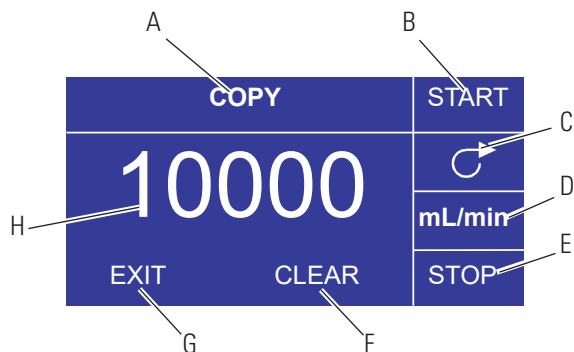

Figure 3-8. COPY Setting Screen
- D. Copy Amount Screen: See *Copy Setting Screen*, Figure 3-8.